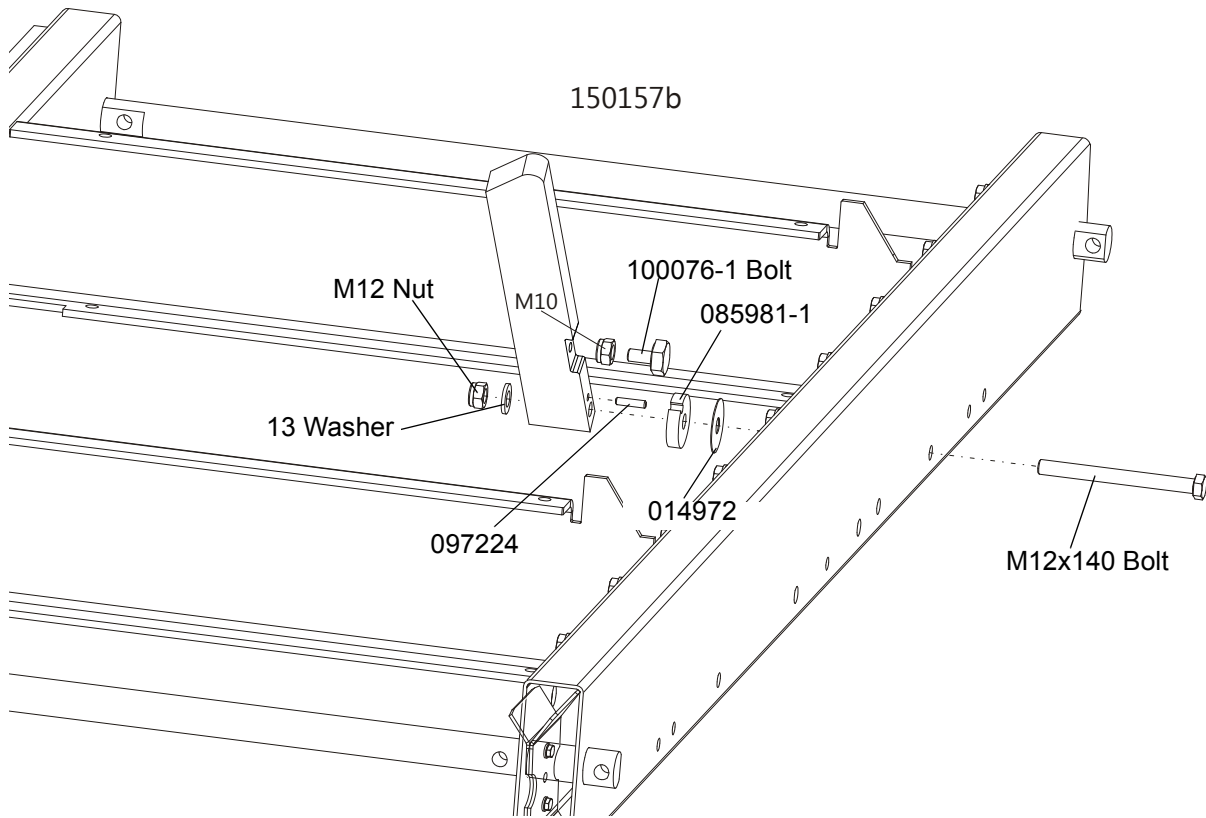

FIG. 2-8
8. Install the log side supports as shown in Figure 2-8. Tighten the nuts so that the side supports can be moved with little resistance. Adjust the side supports. See Section 6.11.
See Figure 2-8.